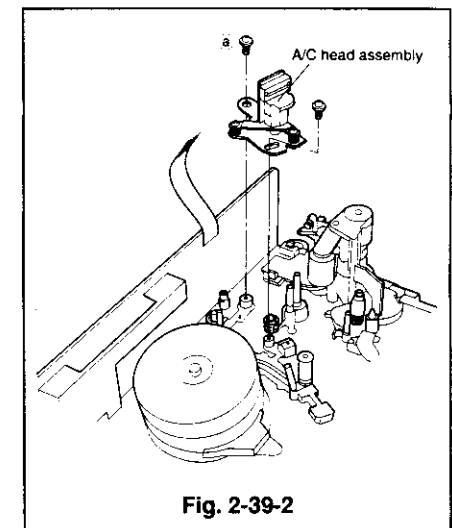

Fig. 2-39-2
- ② Remove the two screws (Ⓐ and Ⓑ) holding the A/C head assembly to the main plate, and to remove the A/C head assembly. (Refer to Fig. 2-39-2.)
- ② Place the A/C head assembly in the position shown in Fig. 2-39-2 and secure it with the two screws(Ⓐ and Ⓑ).